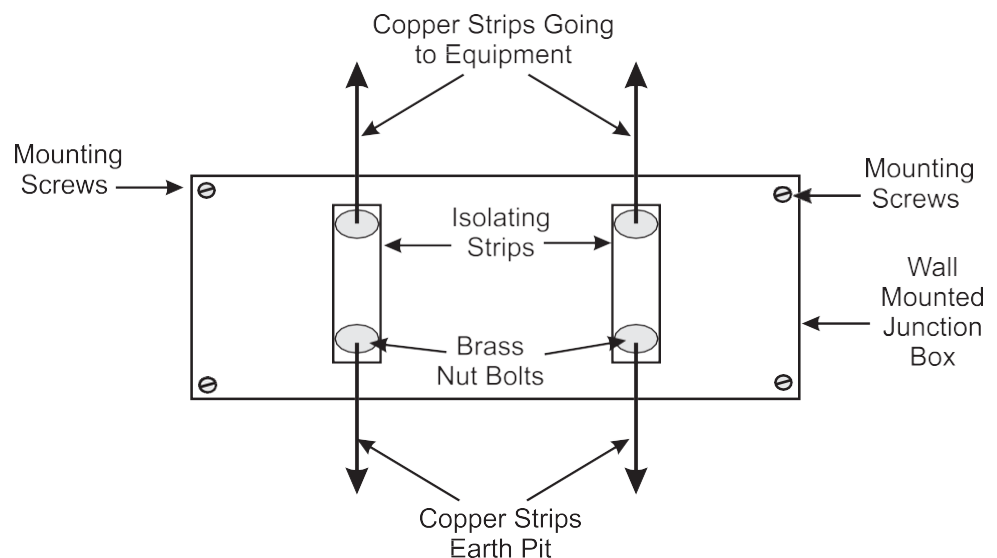

Figure 27.4: Schematic arrangement of junction box showing distribution of copper strips for earthing.
- Always use double brass nut bolts and facility to isolate the equipment during measurement of earth resistance. The arrangement is shown in Figure 27.4.
Figure 27.4 indicates that two copper strips have been brought from two separate earth pits and terminated on the wall mounted junction box. Two copper strips are taken out from this junction box through insulating plates and are connected to
Looking at Figure 27.4, you can see that RF outputs of both the transmitters are connected to the RF input ports of RF switch. Transmitter and Dummy load are connected to two RF output ports of RF switch. Note the connections of RF switch. In position '1' (A is connected to B and C is connected to D), Transmitter 1 is connected to dummy load and Transmitter 2 is connected to antenna. When RF switch is changed to position '2' (A-D, B-C), transmitter 1 gets connected to antenna and transmitter 2 to dummy load.